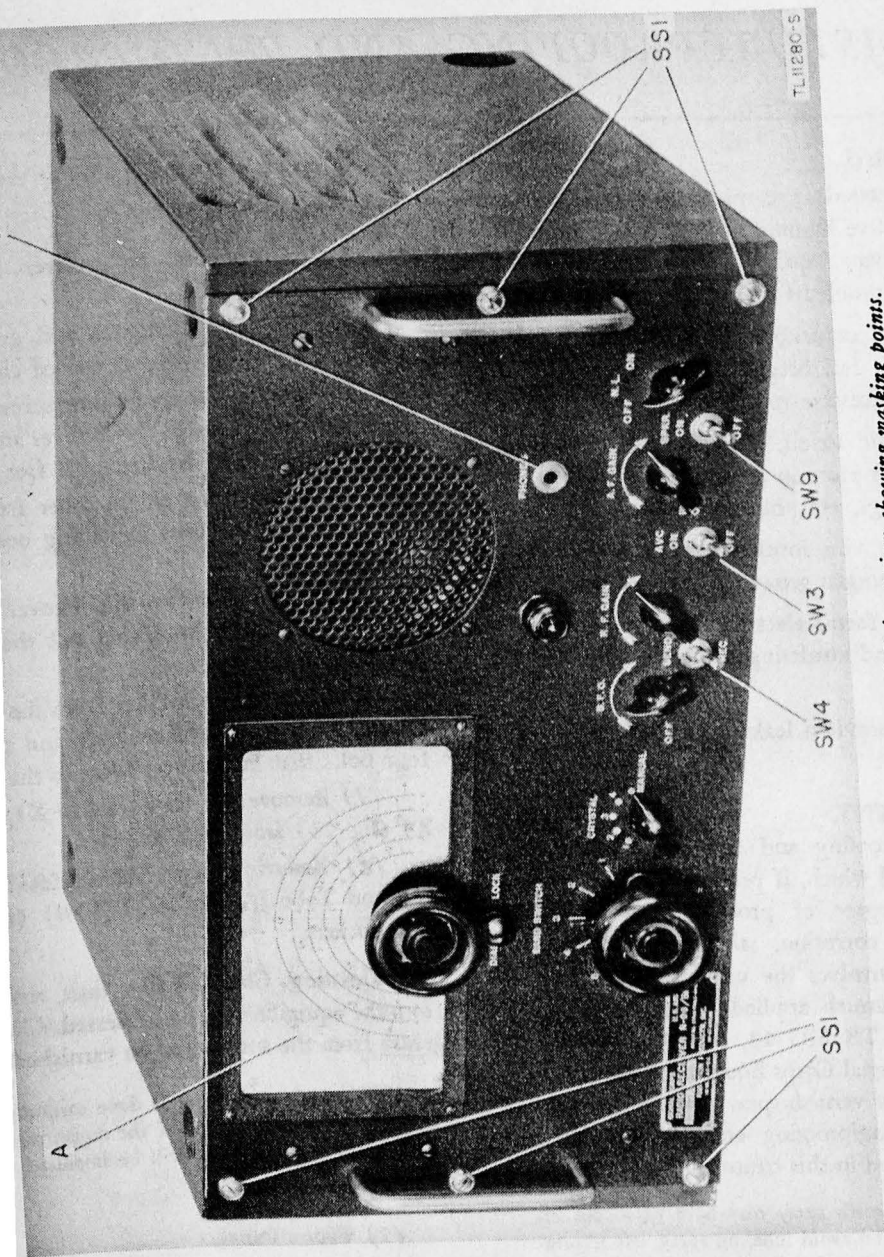

Figure 22. Radio Receiver R-96/SR, front view, showing masking points.
(1) Disconnect the receiver from its power source.
(2) Disconnect antenna and ground leads and all interconnecting wires at rear of chassis.
(3) Remove the six holding screws SS1 (fig. 22) from the front panel of the receiver and pull the chassis forward by the handles until free of the cabinet.
(a) Mask the glass face of tuning dial A (fig. 22) with paper and masking tape.
(b) Mask openings around toggle switches SW3, SW4, and SW9 (fig. 22).
(c) Mask sleeve of phone jack J1 (fig. 22).